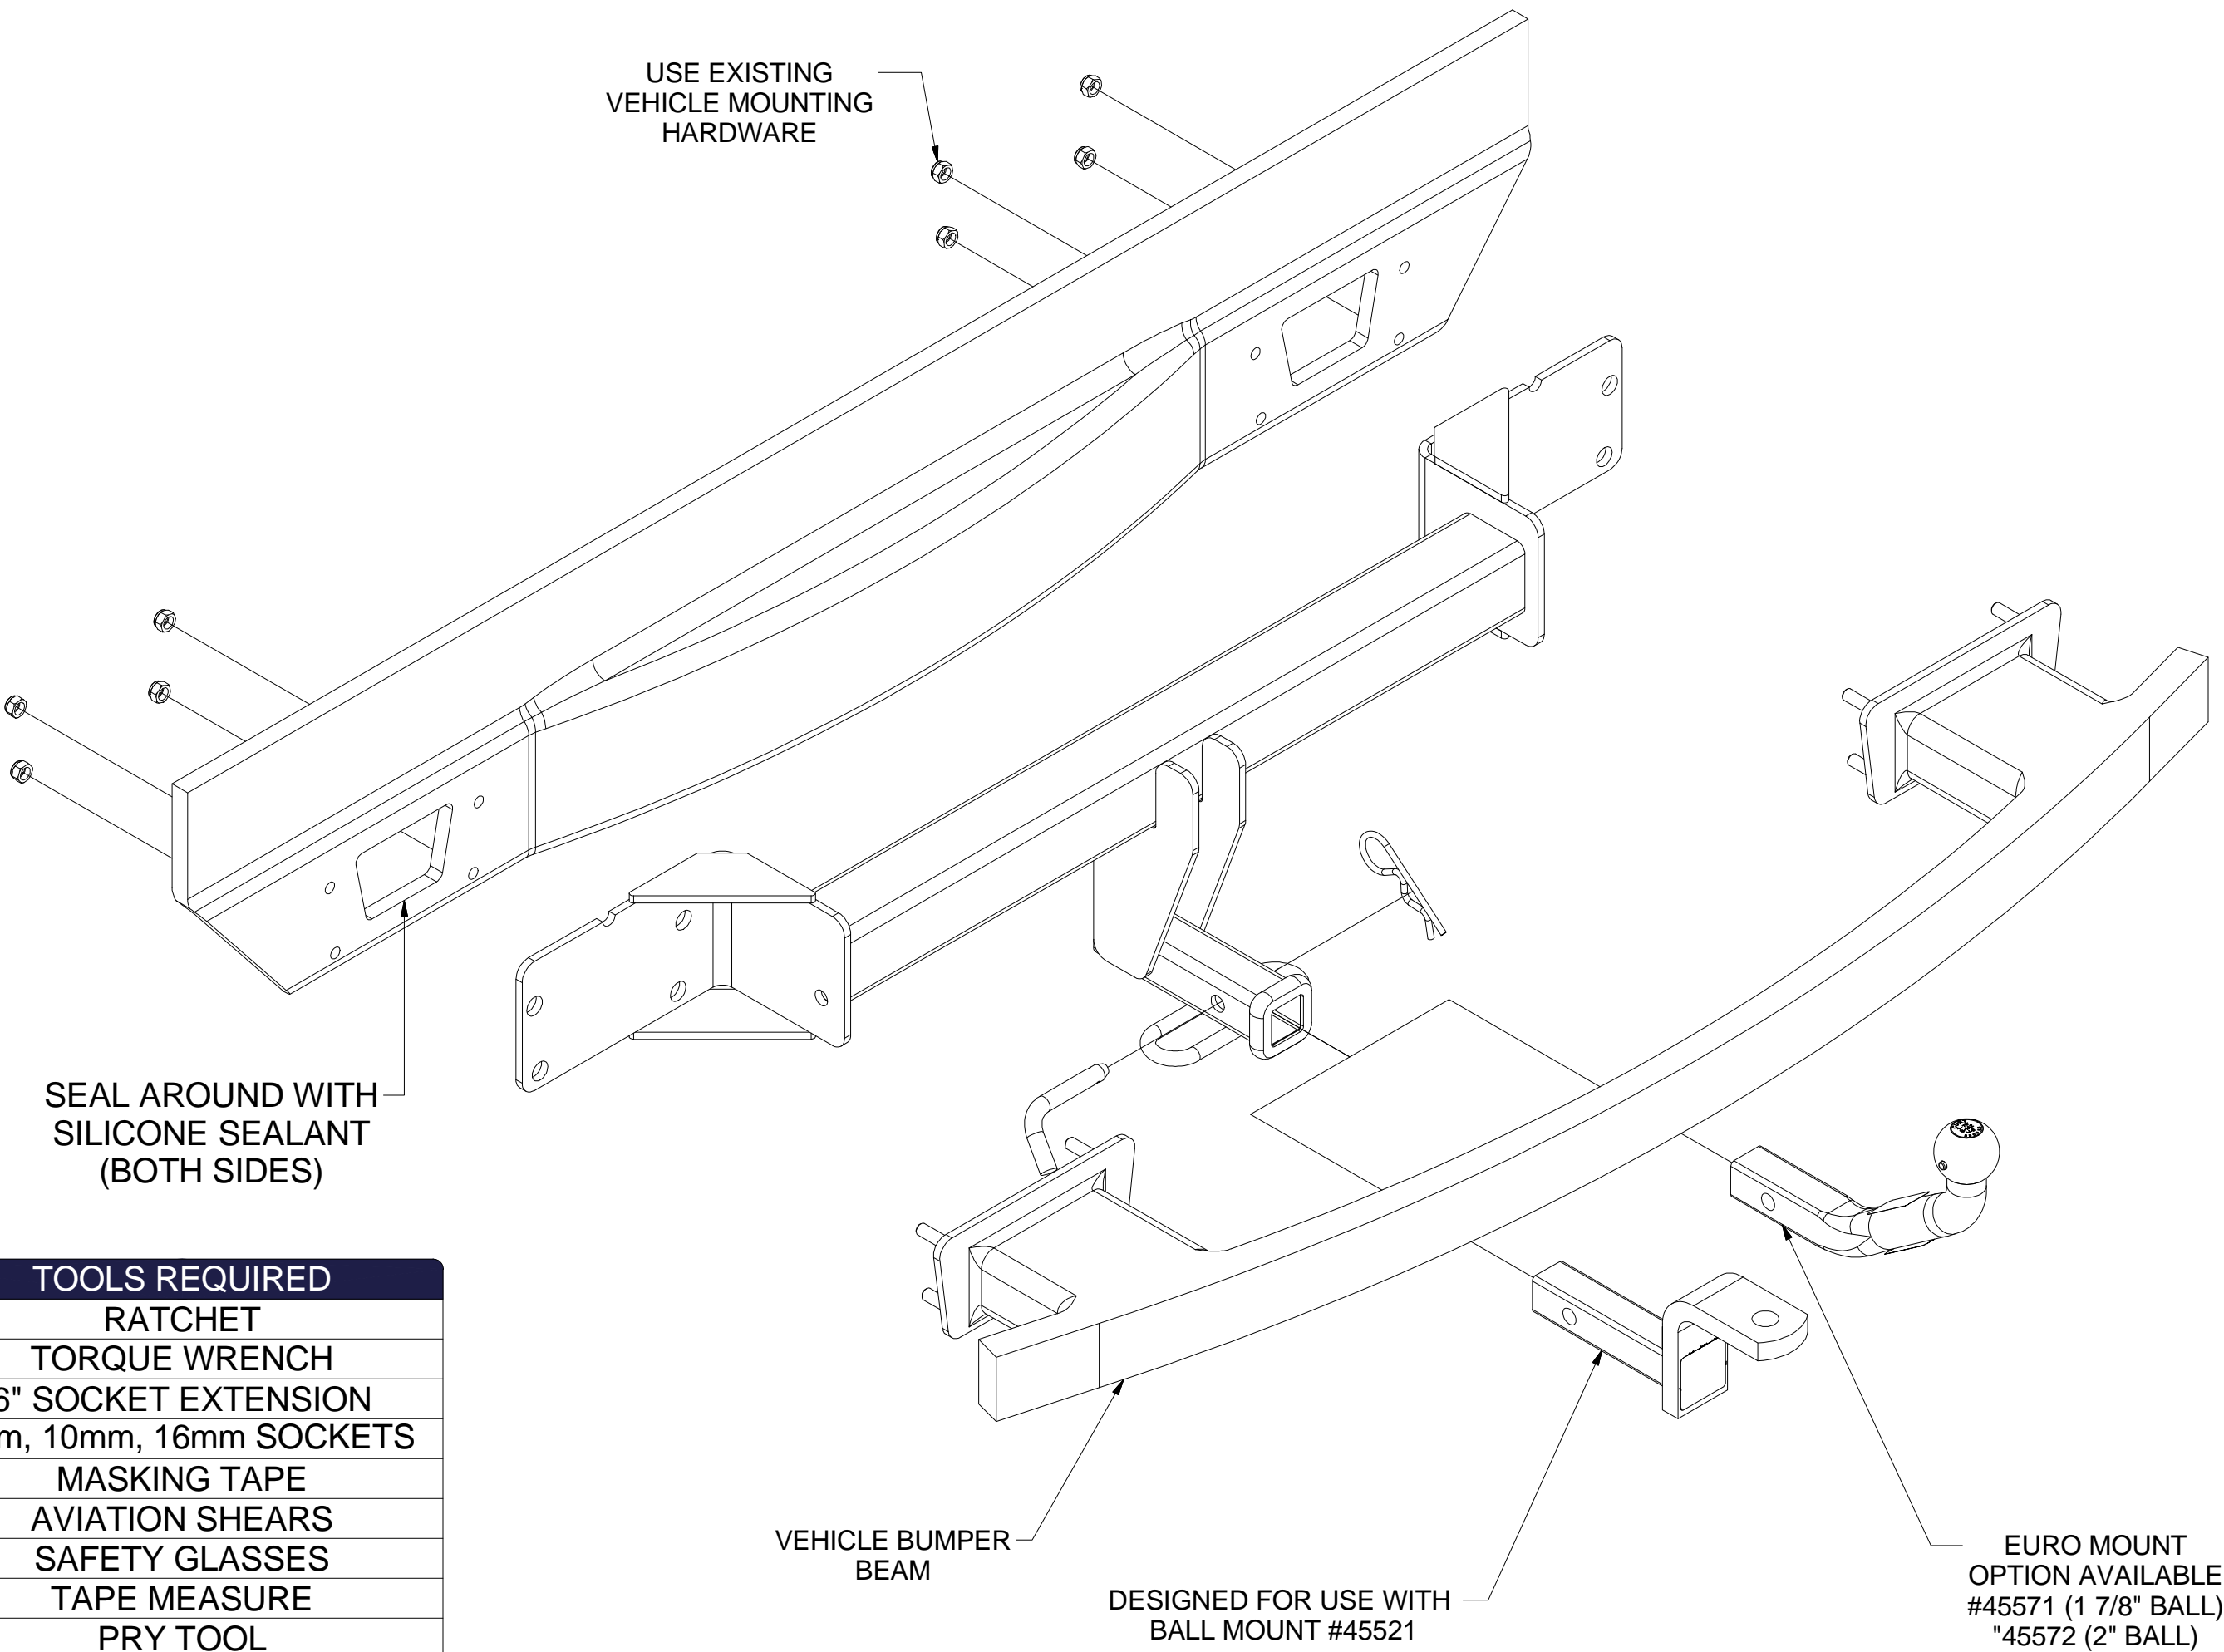

FIGURE 1
4. On the fascia supports, locate and remove (2) bolts, (1) on each side using a 10mm socket. Gently remove the lower portion of fascia connected to the bumper fascia. Set aside for later reinstallation.
5. Locate the bumper beam connection points and remove (8) nuts, (4) from each side using a 16mm socket. Remove bumper beam by pulling bumper towards rear of car while twisting the bumper beam up towards the top of the vehicle. Set aside for later reinstallation. **NOTE:** Use silicone sealant around openings of the frame rail on each side as shown in FIGURE 1.
1. Lower exhaust by locating and removing (2) E12 Torx bolts, (1) on each side.
2. At the bottom of the wheel well, locate and remove (6) push pins, (3) on each side using a pry tool. Pull back part of wheel well to reveal (4) push pins, (2) on each side and remove using a pry tool.
3. Locate on the underbody panel and remove (6) nuts, (3) on each side using an 8mm socket. Remove underbody panel and mark out an 2" x 4" section using masking tape and trim using aviation shears. Set underbody panel aside for later reinstallation.